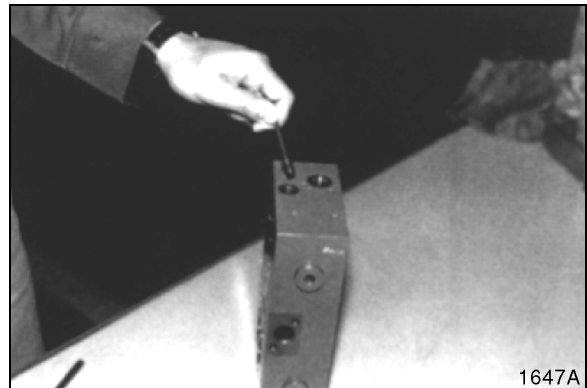

Figure 54
9. Remove valve seat. See Figure 54.